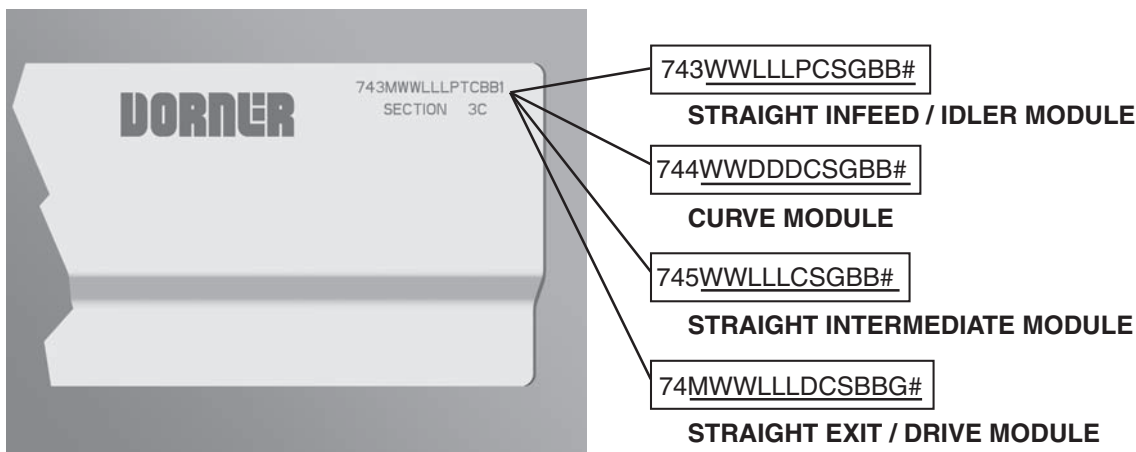

Figure 91
Refer to your serial and model number plate (**Figure 91**). From the model number, determine conveyor width (WW), length (LL), pulley type (P), stand location, cleaning options (C), stand holes (S), guide profile (G), belt material (BB), degree of turn (DD), drive/pulley type (D) and module serialized sequence (#).